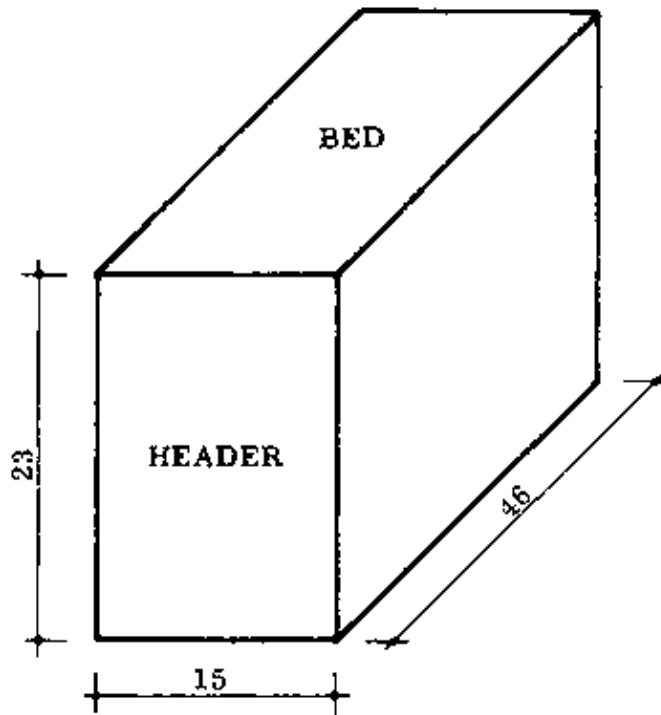

Fig. 4 SANDCRETE BLOCK
– SANDCRETE BLOCKS: This type of block is used for actual building (Fig. 4).